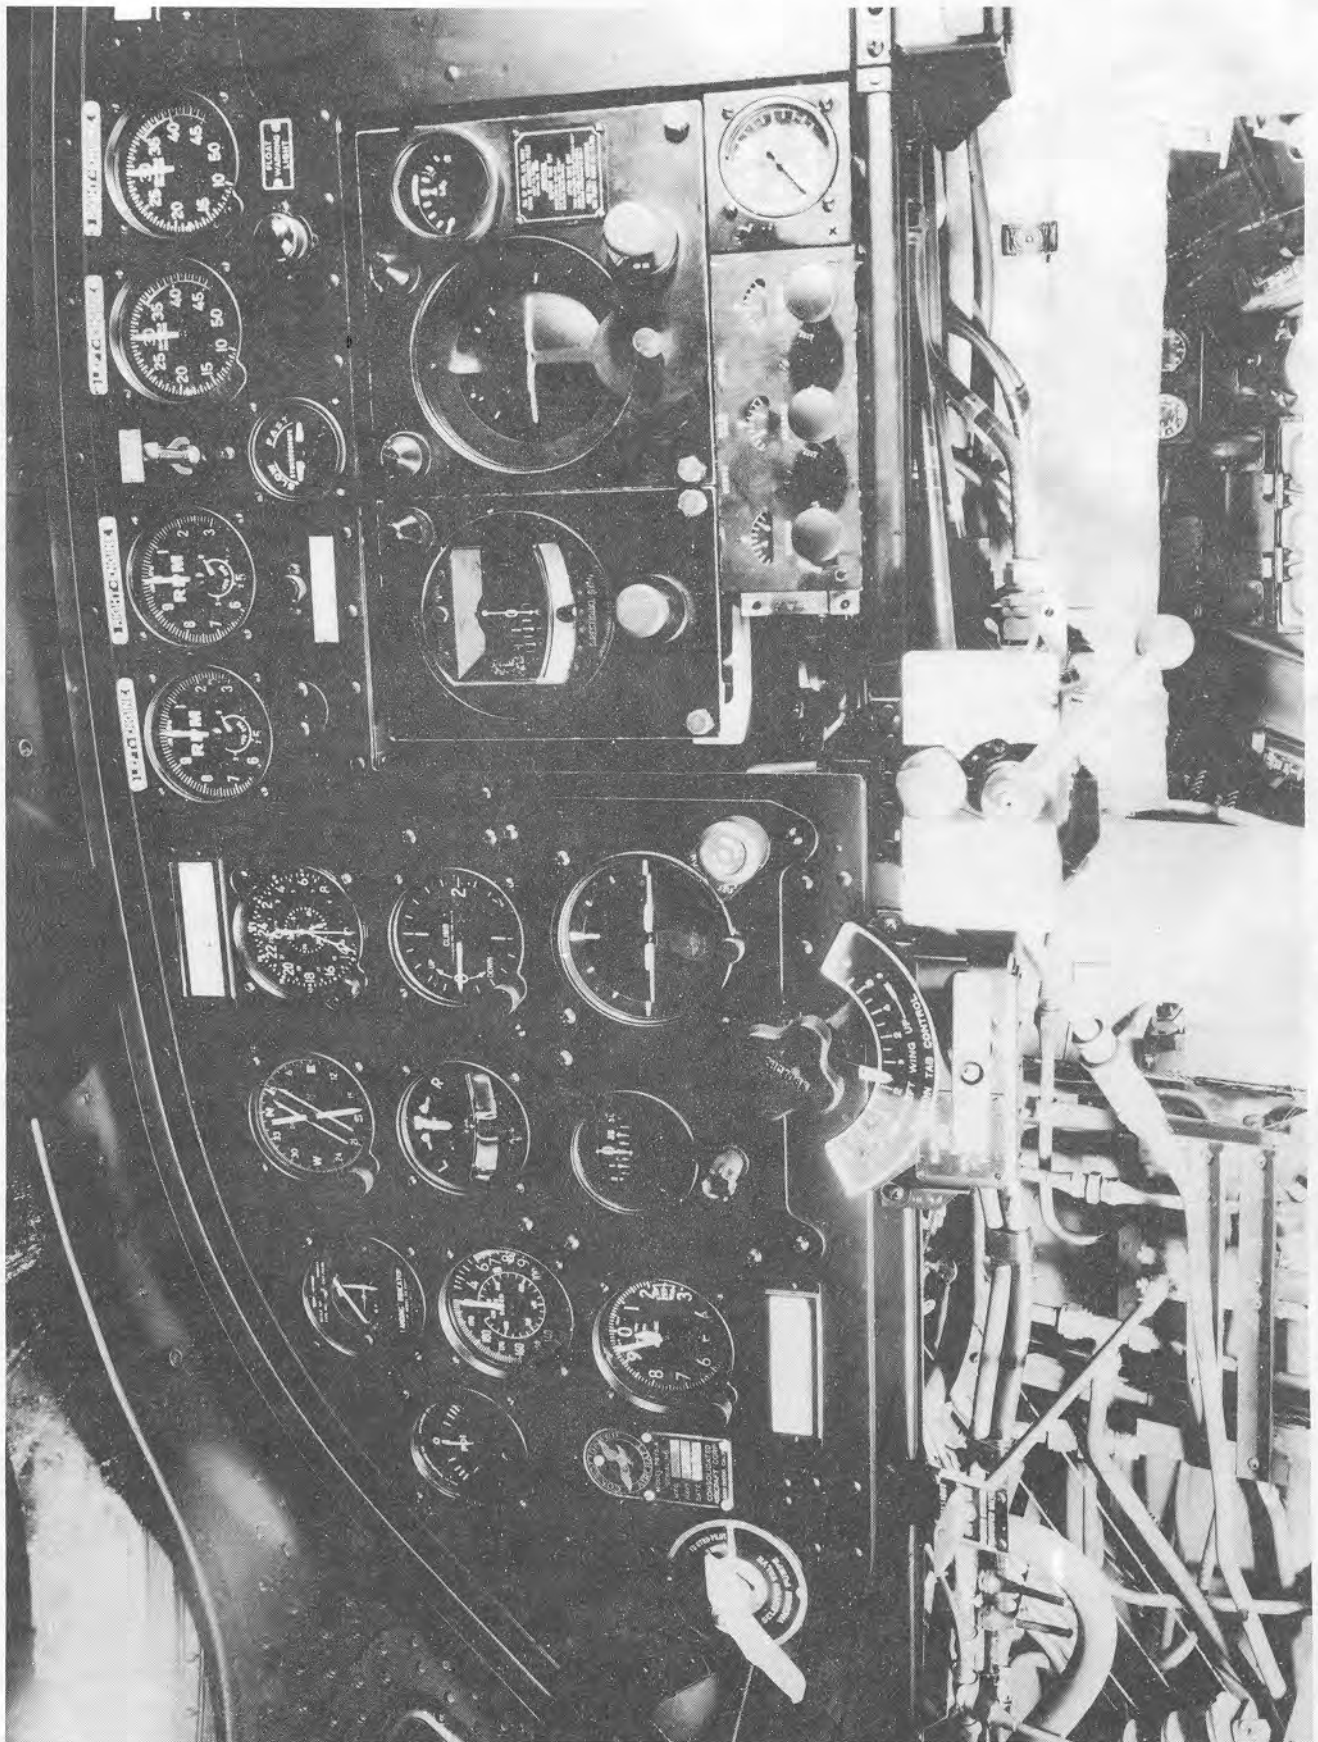

Figure 3—Pilot's Instrument Panel
**(5) INSTRUMENTS IN PILOT'S COMPARTMENT.**
*(See figures 3 and 4.)*
(a) Turn selector valve handle (See figure 3.) on pilot's panel to "DOWN" position. See that lever safety catch clicks into place, locking lever in down position.